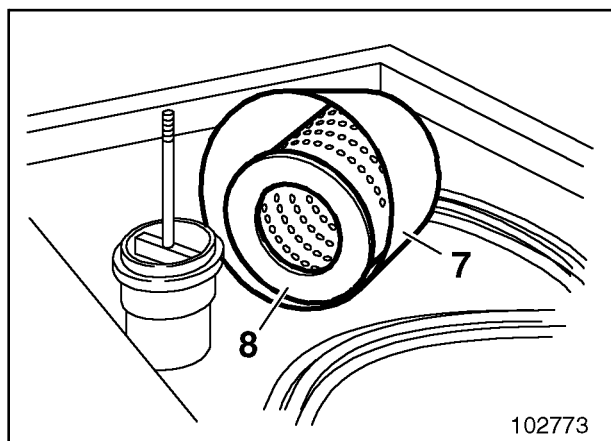

Fig. 6
- Withdraw cover (7, Fig. 6) and filter element (8).